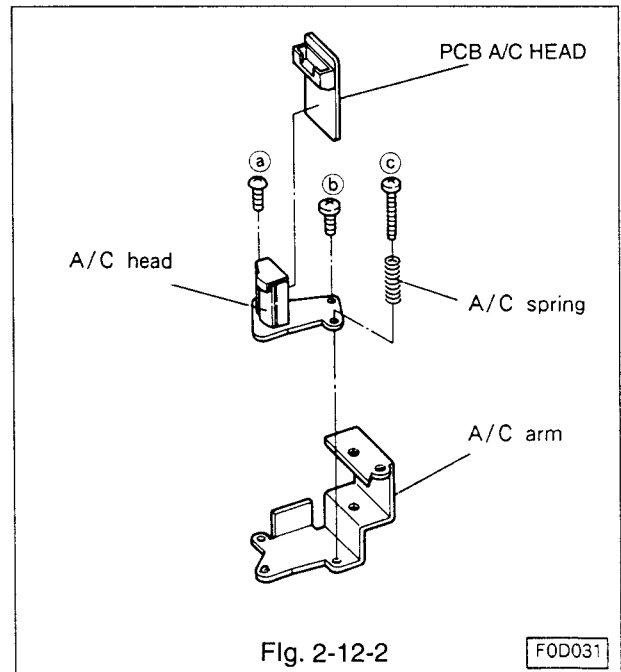

Fig. 2-12-2
- Remove three A/C head fastening screws[(a),(b) and (c)] and the A/C spring shown in Fig. 2-12-2, and remove the A/C head from the A/C arm.
- Unsolder the PCB A/C HEAD from the A/C head.(Refer to Fig. 2-12-2.)
(Refer to Fig. 2-12-2.)